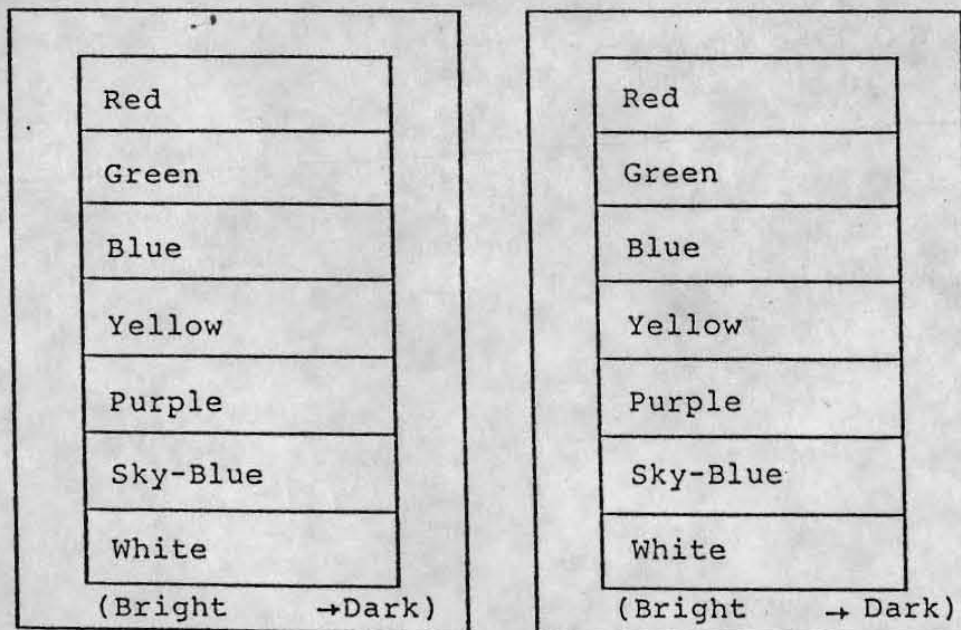

Figure 7 (High Brightness Color Bars)
In the "Color Bar-2"(the above item 3), when the "TEST" switch is pressed once again, the screen changes to a screen shown in Figure 7.